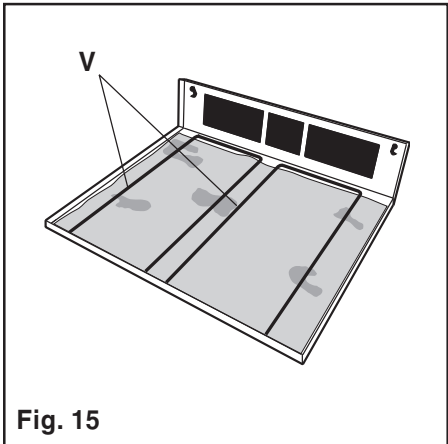

Fig. 15
- b) Extract the filter after removing clips **V** (fig. 15).